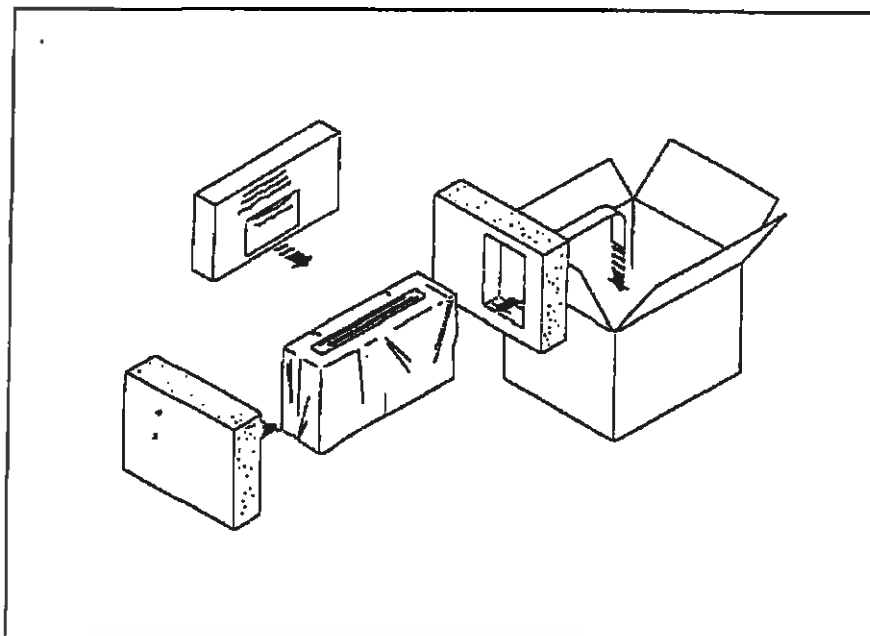

Figure 2-1 Packing and Unpacking Diagram
- 2-2 UNPACKING.** The instrument is shipped complete and ready to use upon receipt. Unpack the instrument from its shipping container and inspect it for damage that may have occurred during shipment. Refer to Figure 2-1.